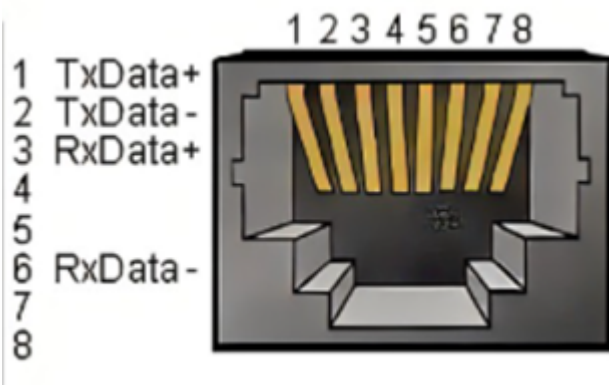

Figure 1-7 Network interface definition
- I. Network port: (as shown in figure 1-7) ports for network data connection. Ethernet interfaces can be used for communication between a PC and a robot system or for Ethernet communication with other devices.